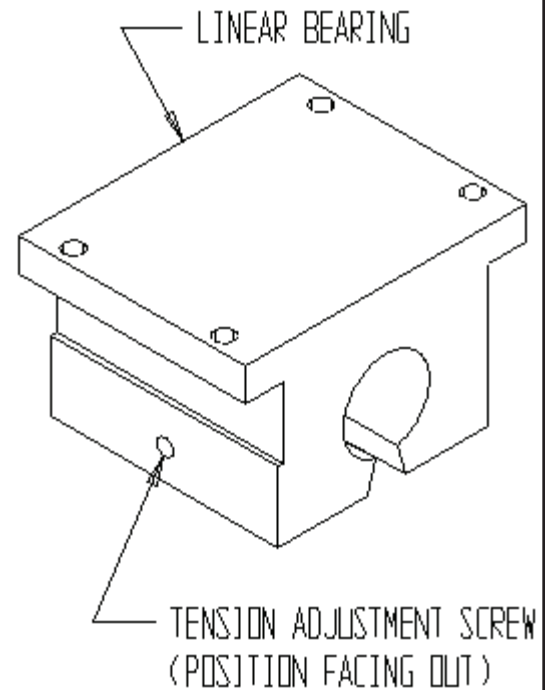

FIG. 5
STEP 3--Insert a new linear bearing onto the end of the carriage shaft with the tension adjustment screw pointing outward. See FIG. 5.